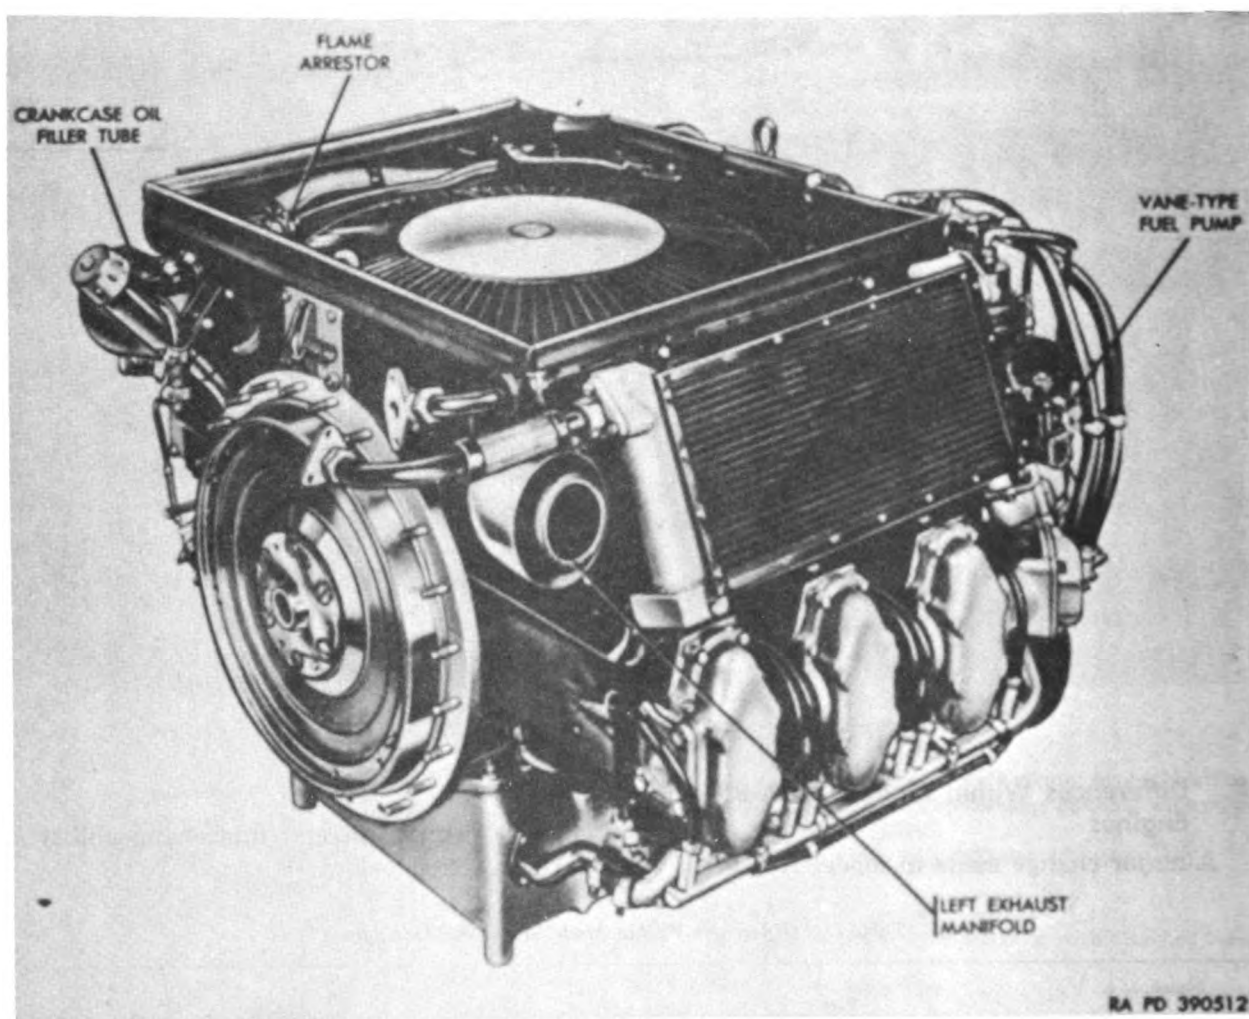

Figure 8. Model AOSI-895-5 engine—three-quarter left rear view.
i. A flame arrestor (fig. 8) is incorporated into the crankcase breather system as a safety feature to prevent flame flashbacks into the crankcase.
a. *Exhaust Manifolds.* A hotspot device is not required on a fuel-injected engine. The hotspot outlet extensions from the exhaust manifolds, formerly used on model AOS-895-3 engines, are sealed with a cover (fig. 8) on model AOSI-895-5M engines and have been eliminated from model AOSI-895-5 engine exhaust manifolds.